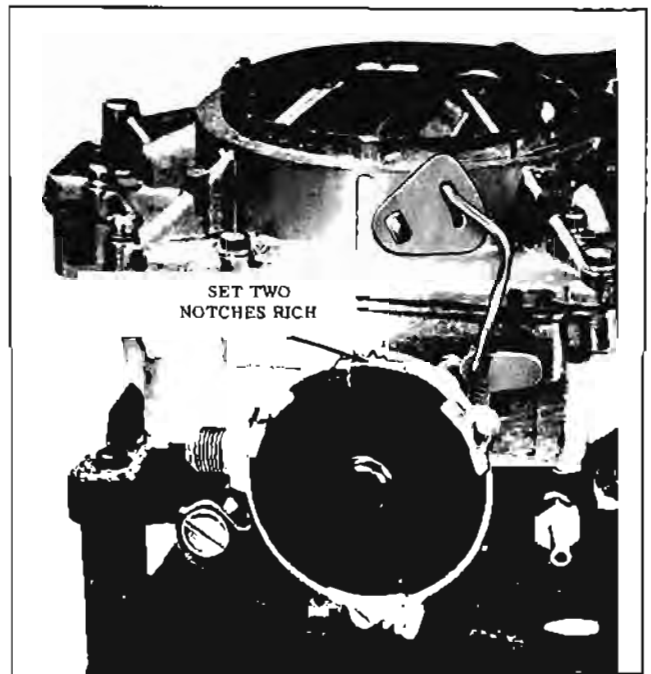

Fig. 9-187 Choke Coil Setting
4. Rotate cover counterclockwise until coil pick up tang on piston linkage. Continue rotating cover until scribe line on cover indicates two notches rich. (Fig. 9-187)